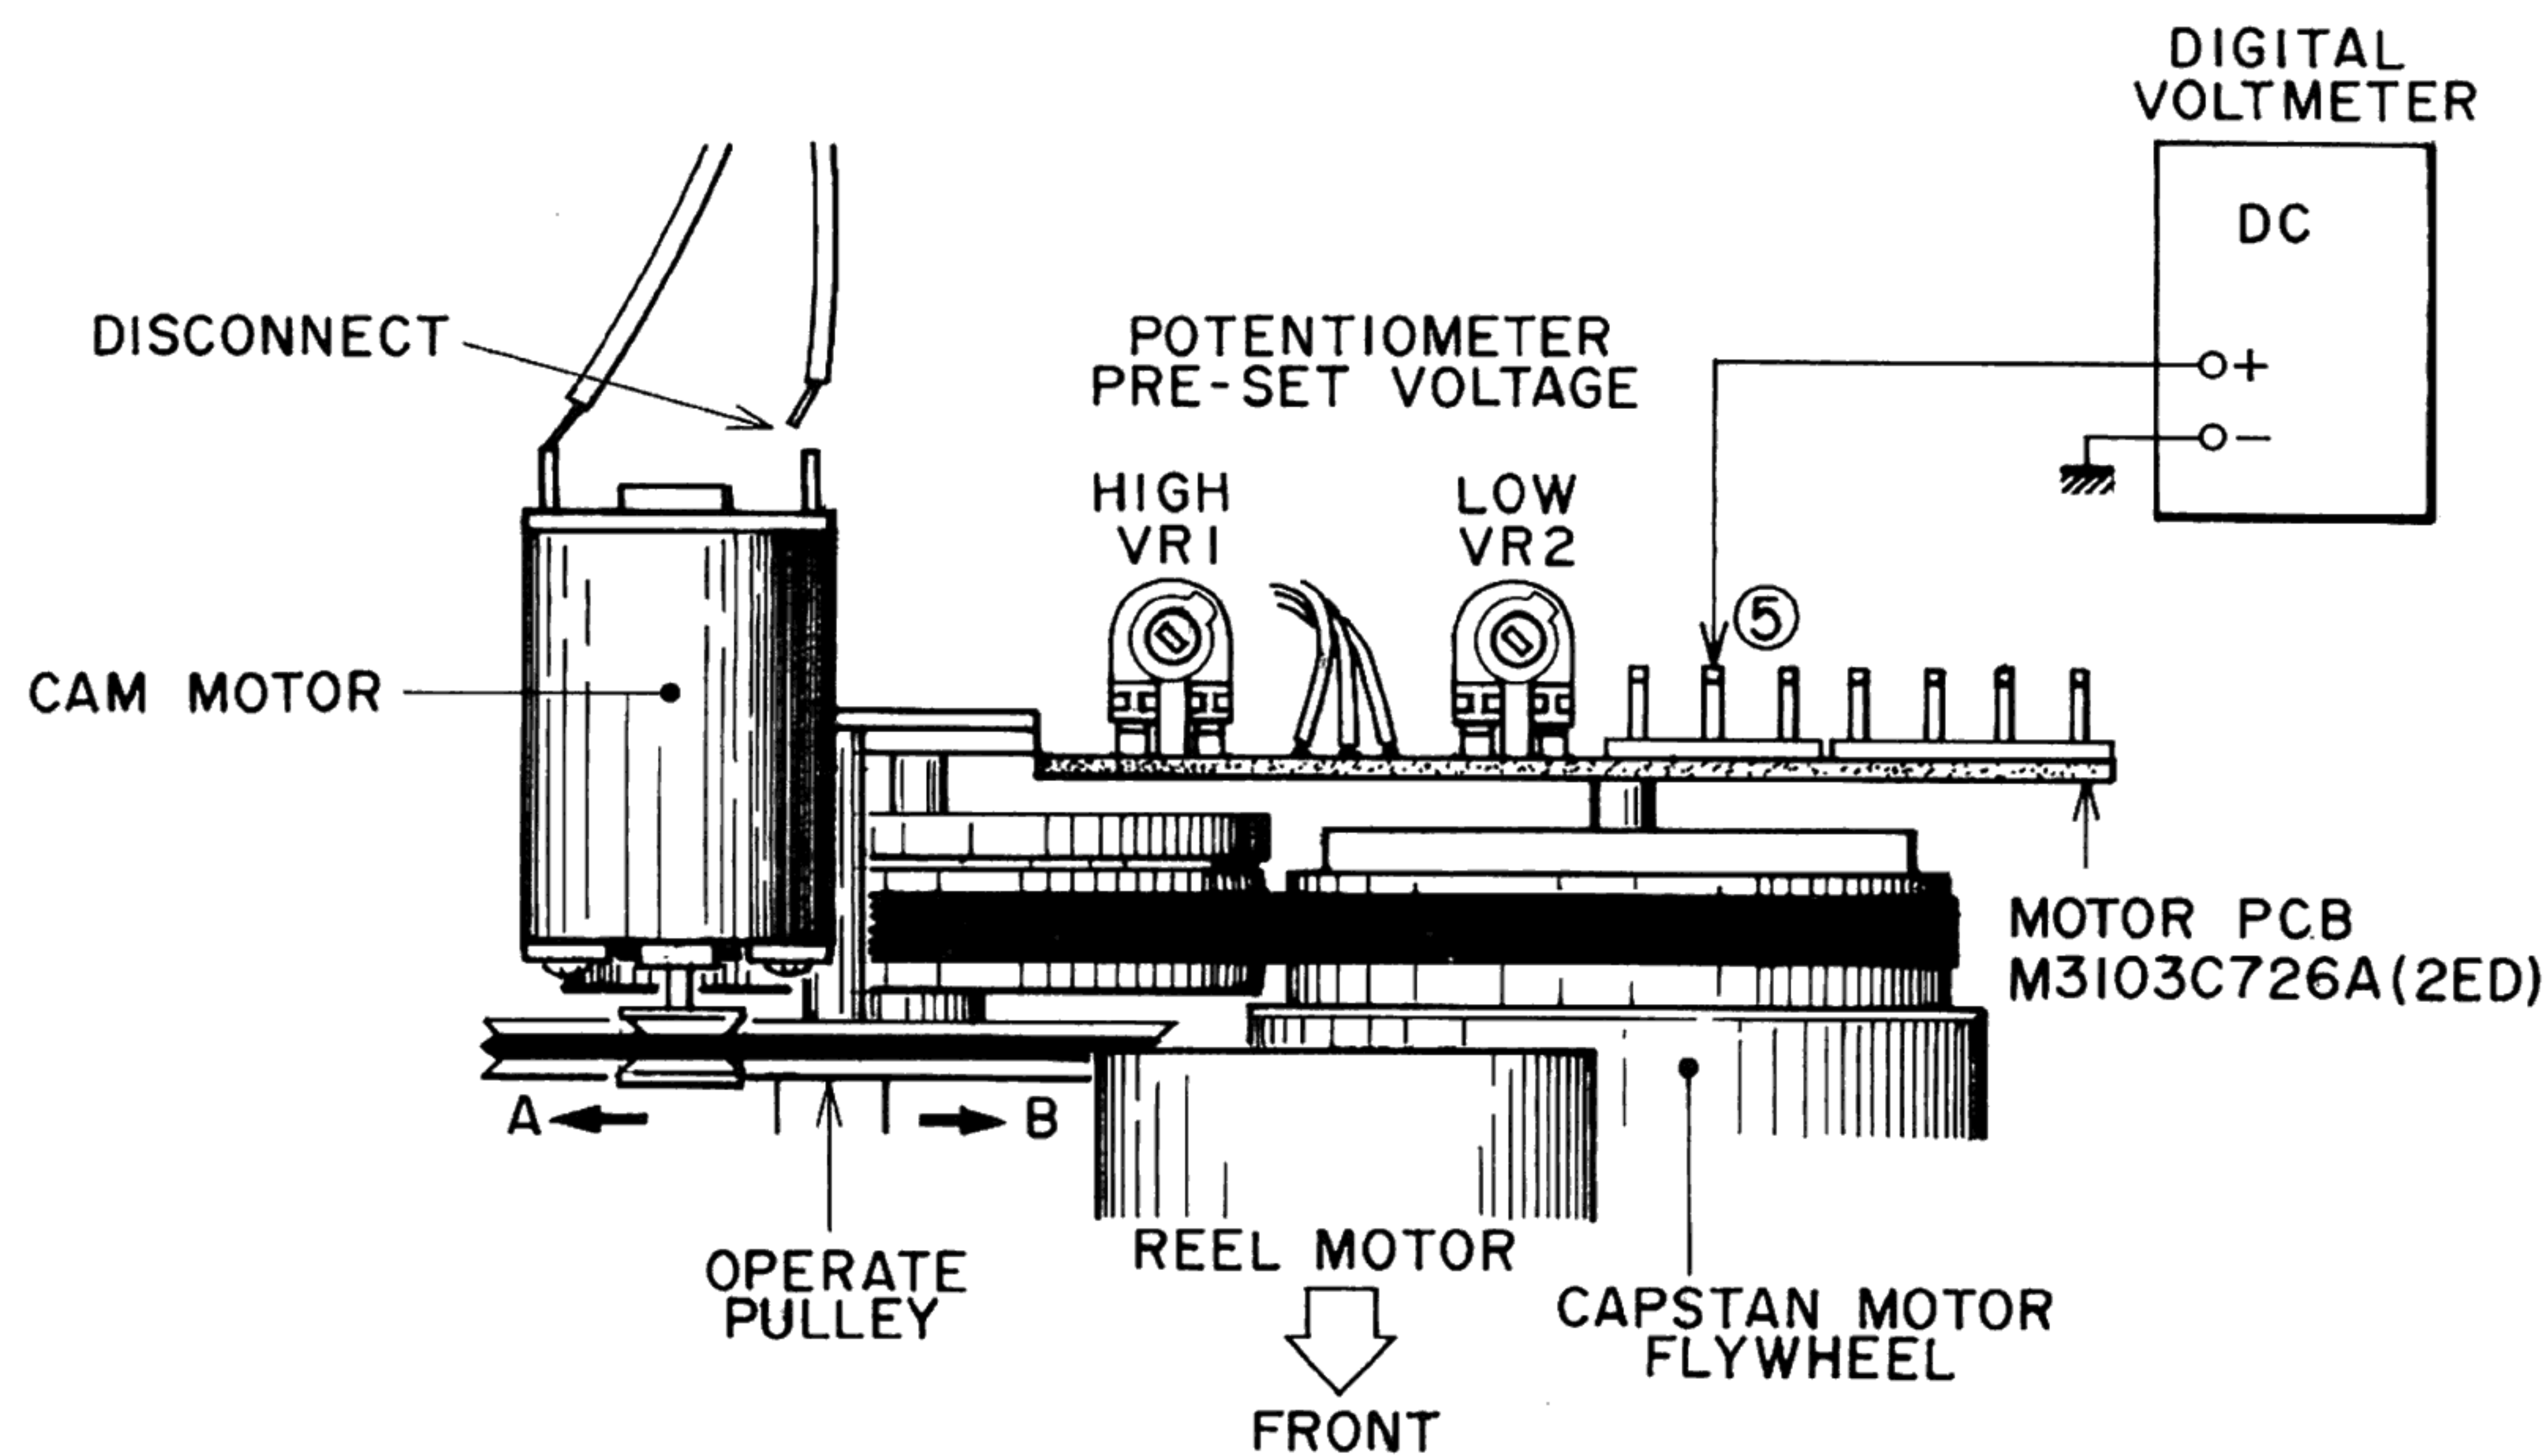
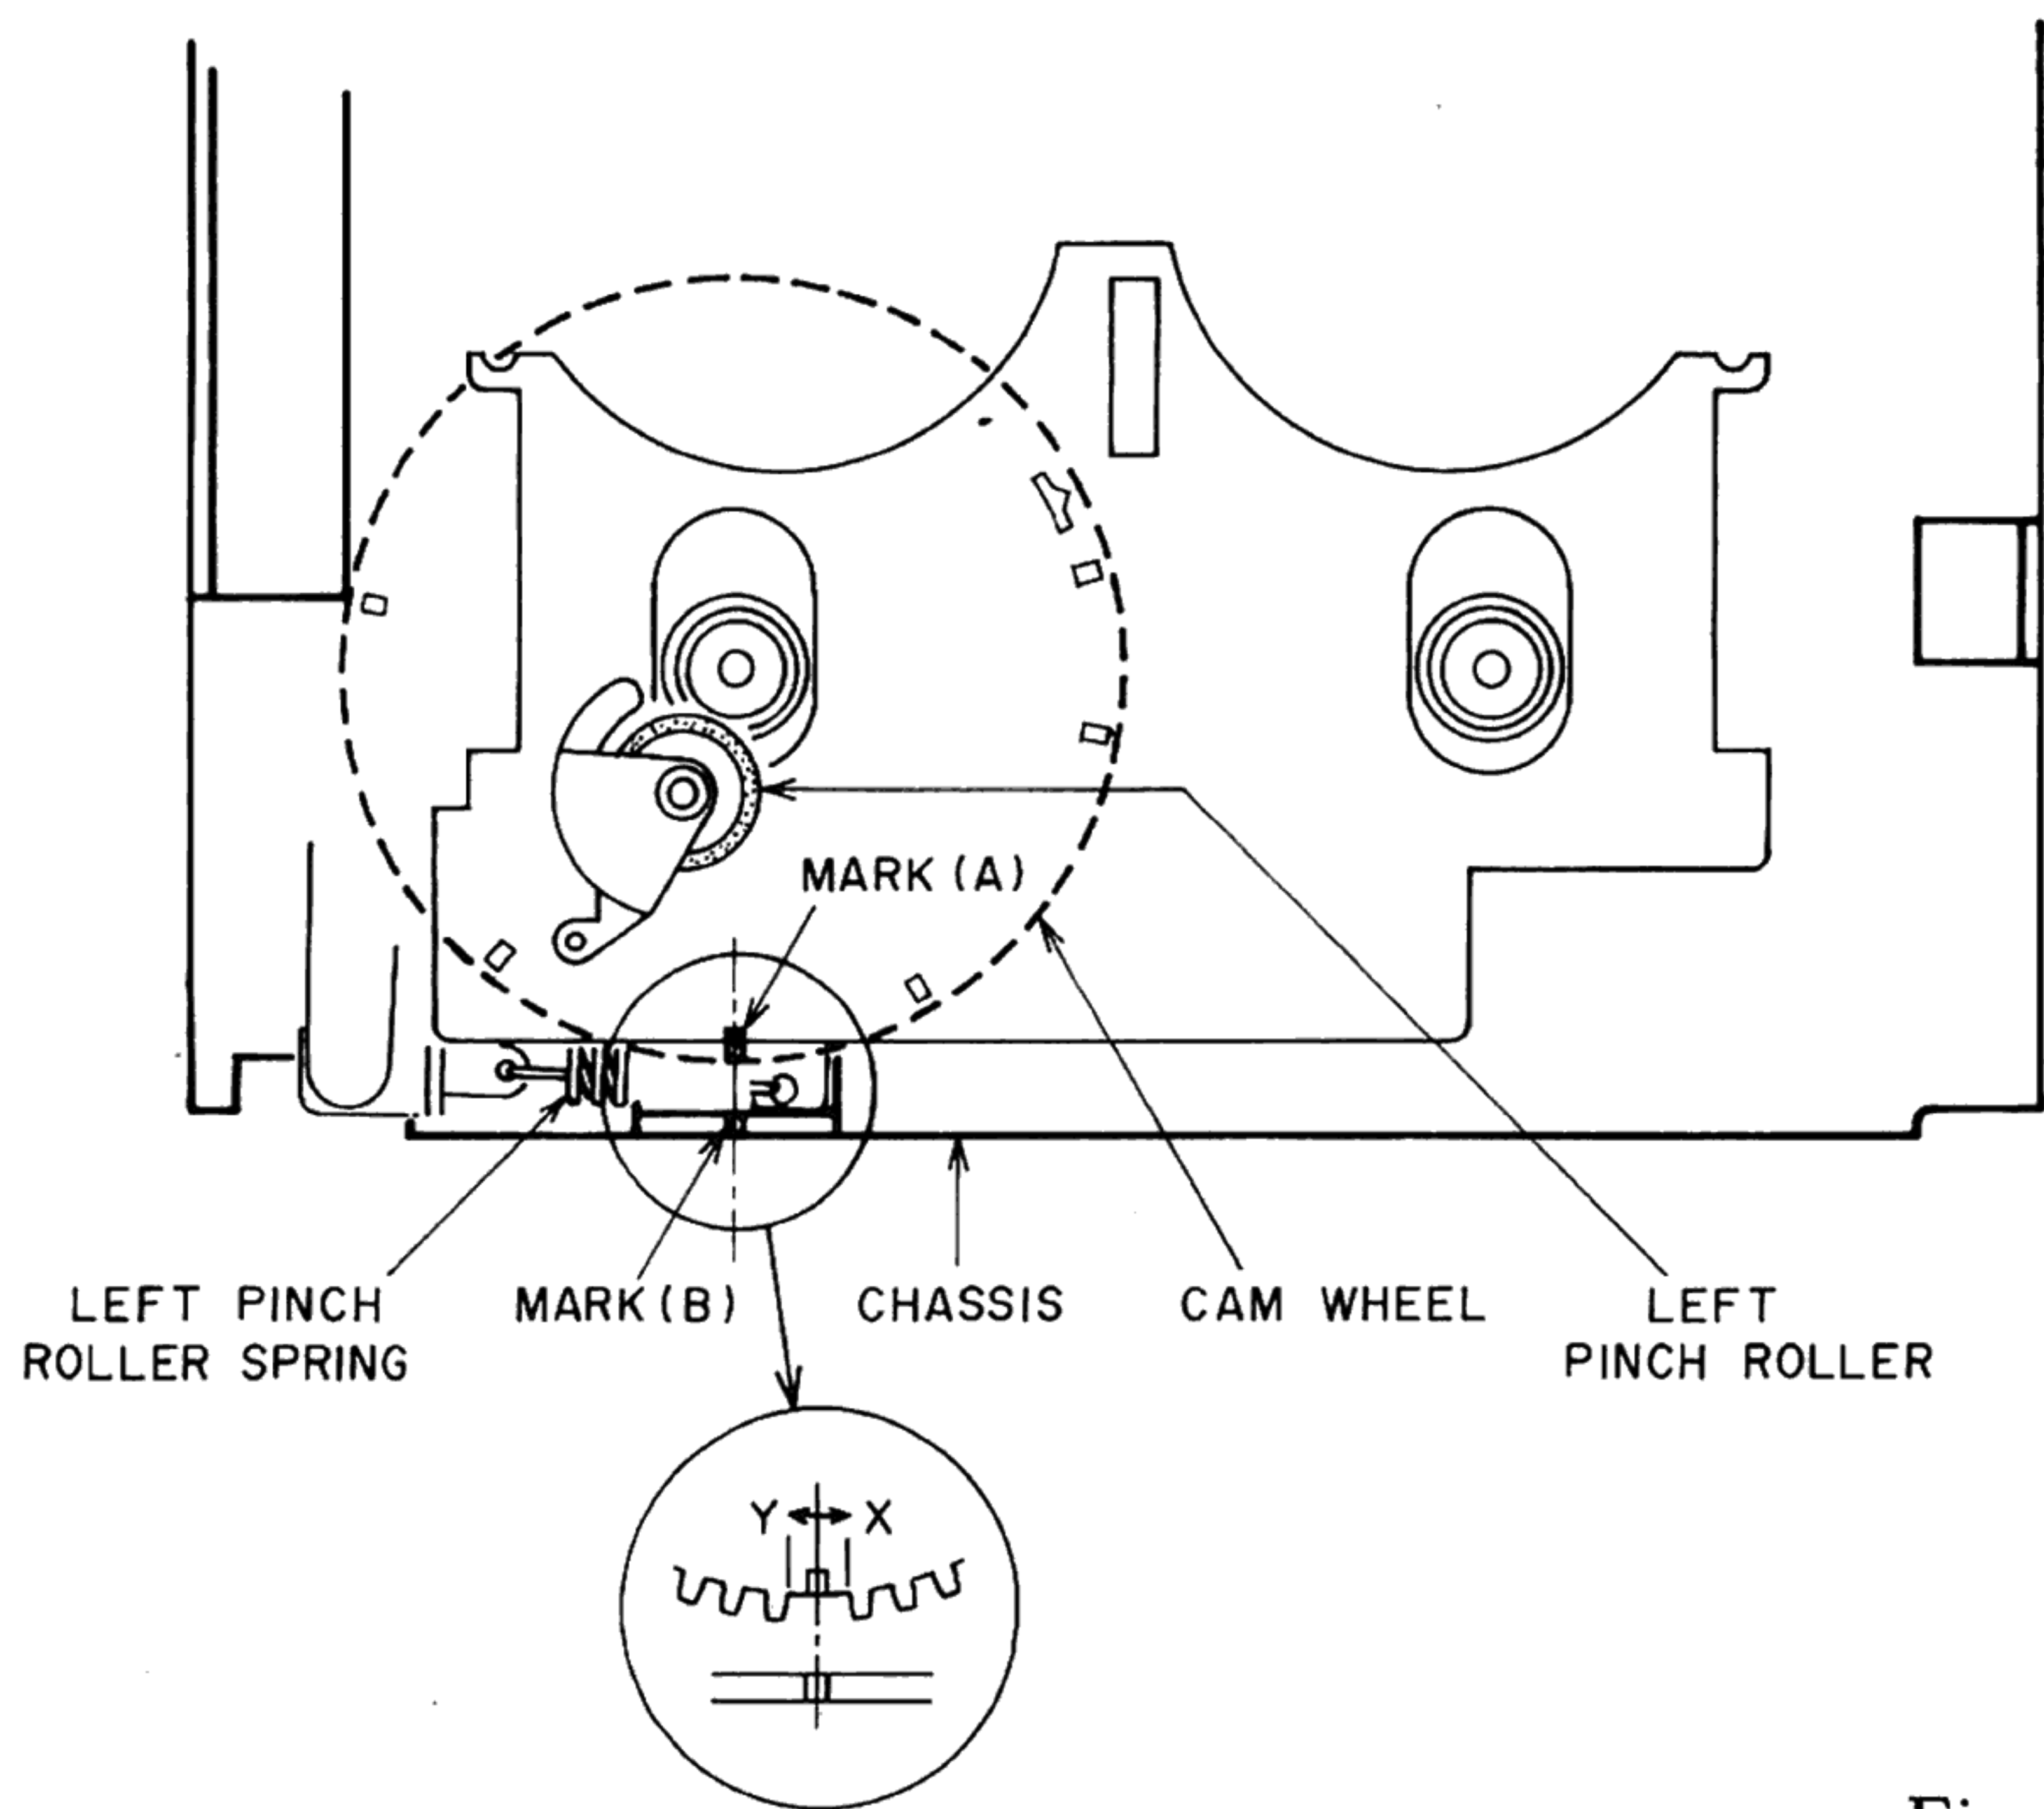

Fig. 5-5
Fig. 5-6
5-5. POTENTIOMETER PRESET VOLTAGE ADJUSTMENT (Refer to Figs. 5-5 to 5-6)
- b. Connect the digital voltmeter as shown in Fig. 5-5.
- c. With power ON, adjust VR2 so that the voltage reading will be 0.94V (DC).
- b. With power ON, adjust VR1 so that the voltage reading will be 8.08V (DC).
- b. Adjust VR1 slightly so that the center of Marker (A) coincides with the center of Marker (B) (should be within the range between X and Y) at STOP Mode as shown in Fig. 5-6. (The marker (STOP) on the CAM WHEEL can be seen clearly by lighting it from the back.)